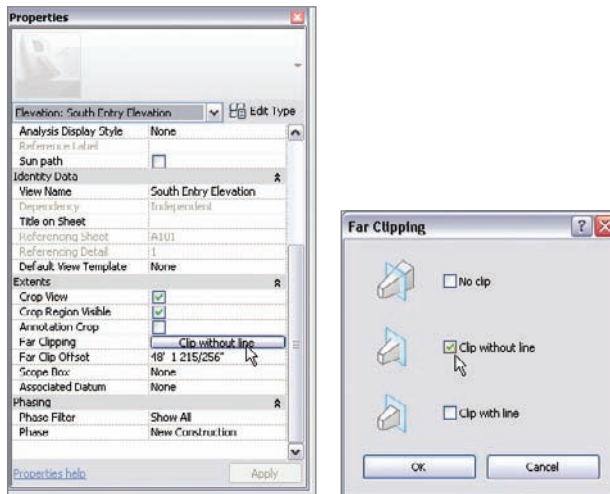

FIGURE 16.40 Adjusting the view's clipping
5. Click the Clip Without Line button, as shown in Figure 16.40.
6. In the Far Clipping dialog, click the No Clip button (see Figure 16.40).